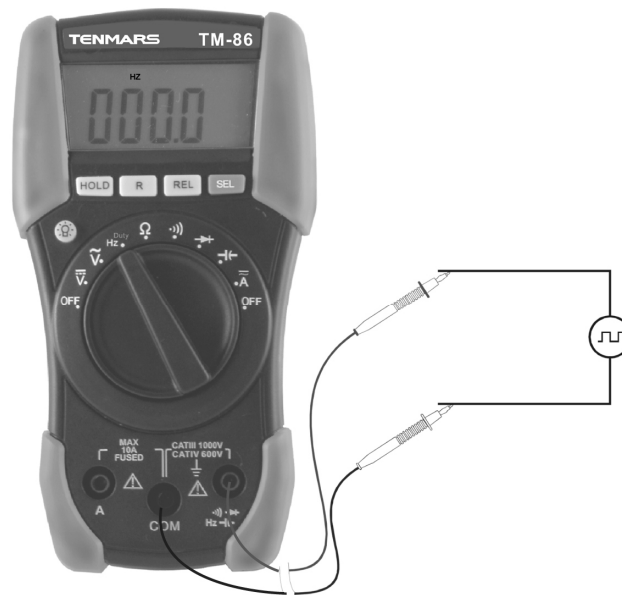

Fig. 9: Using the instrument for frequency measurement
2. Insert the test leads into the jacks, the red plug into **VΩ→** jack and black plug into **COM** jack (see Fig. 9).